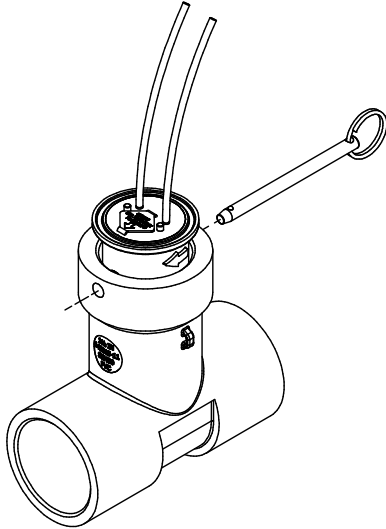

Figure 5
2. Clean all dirt and debris away from the immediate area and the top of the old insert, then pull out the quick release pin from the meter (see Figure 5).